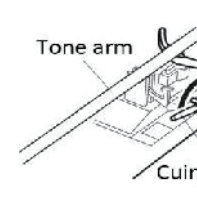
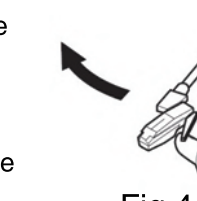

Fig 3
Fig 4
8. Use the cuing lever to lift the tone arm (fig3) and move the arm (fig 4) so that the stylus is positioned just inside the edge of the record or aligned with the start of the track to be played.